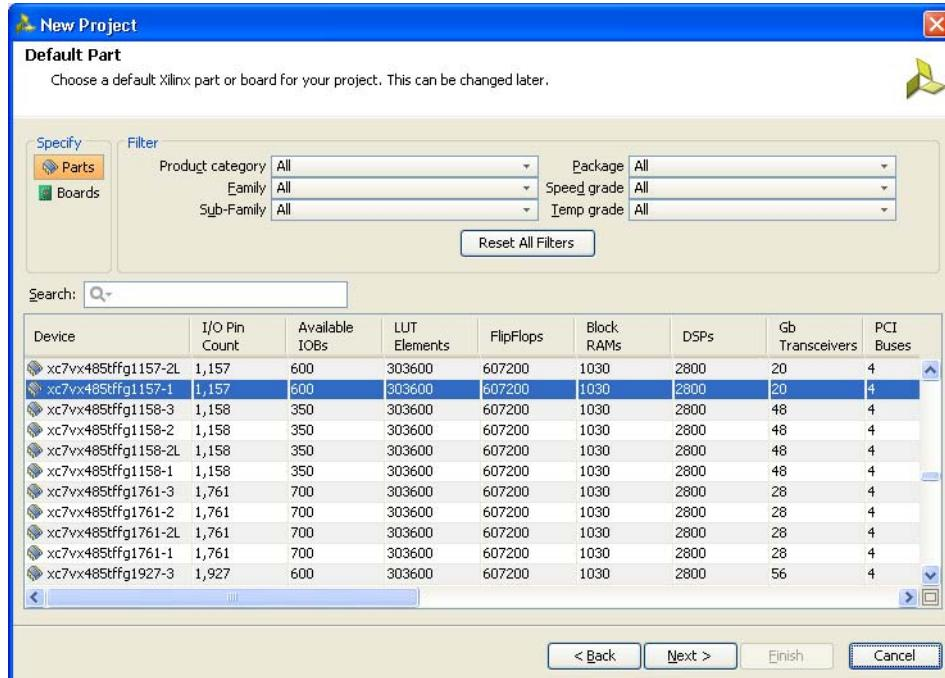

Figure 2-8: Default Part (Default Window)
- Click **Next** to proceed to the Default Part page (Figure 2-8) where the device that needs to be targeted can be selected. The default Part page appears as shown in Figure 2-8.